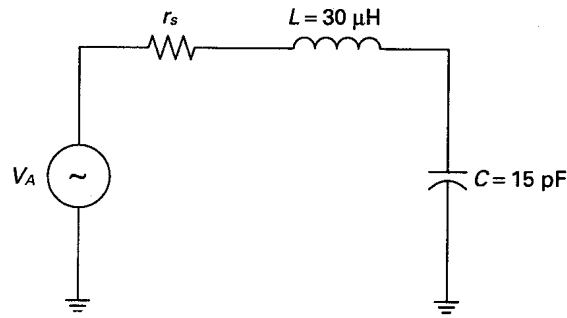

Fig. 1-18
**1.12** In Fig. 1-18, assume that  $Q = 50$ . Calculate  $f_0$ , BW, and the value of the coil resistance  $r_s$ .